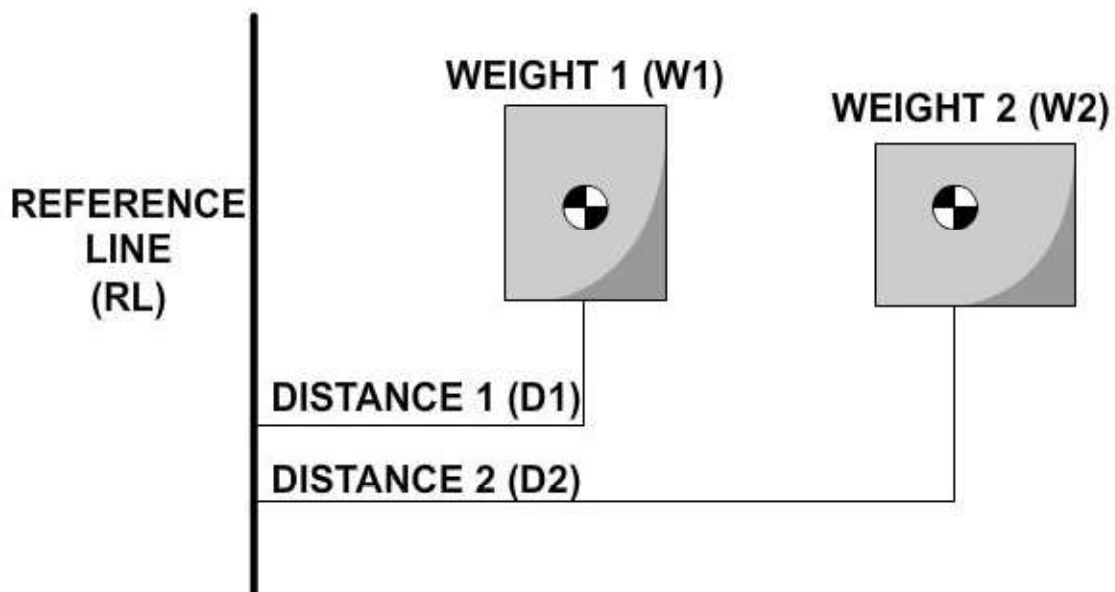

Figure 2-32 — Center of balance model (W1, W2).
- Gross weight (GW) is the total weight of an item of cargo, including all secondary cargo.
- Weight one (W1) is used in computing the CB. It defines the first weight contacting the floor from the RL (*Figure 2-32*).
- Weight two (W2) is used in computing the CB. It defines the second weight contacting the floor from the RL (*Figure 2-32*).
- Distance one (D1) is the distance from RL to W1, as shown earlier in *Figure 2-32*, measured in inches.
- Distance two (D2) is the distance from RL to W2, as shown earlier in *Figure 2-32*, measured in inches.
- Moment (M) is the product obtained by multiplying weight in pounds by distance in inches from the RL.